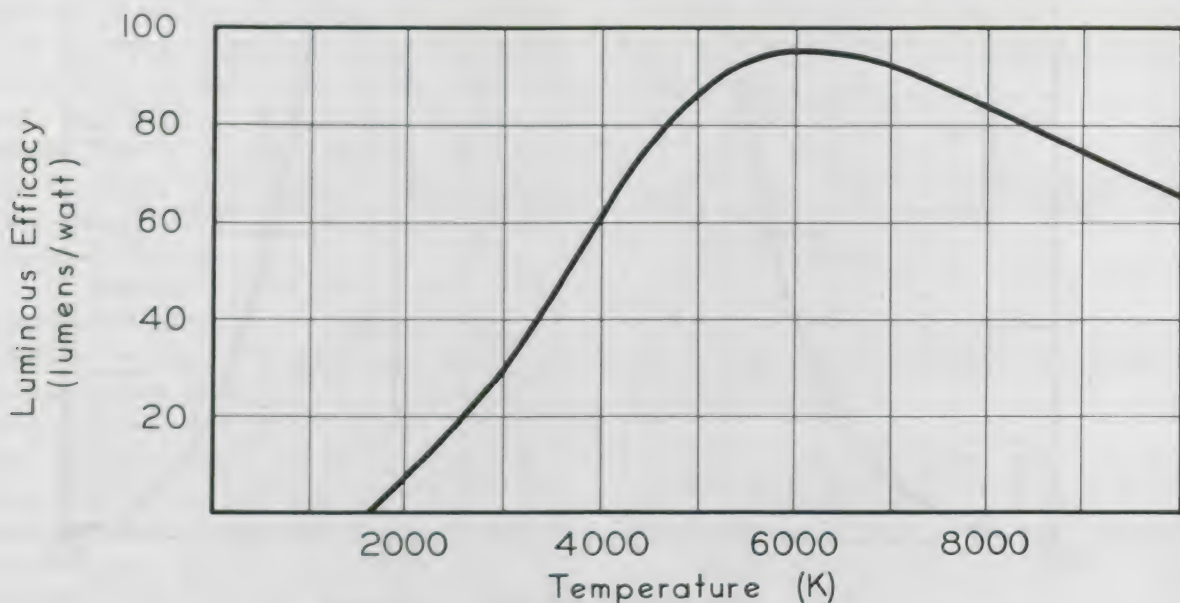

Figure 23.
The characteristics of blackbodies and of the human eye response are known. The summing process can easily be done by a computer and put into a useful form. One such computation provides a graph of luminous flux versus temperature for each watt of radiant flux from a radiating object. We call the measure of lumens per watt of radiated power the *luminous efficacy*, e_L . Figure 23 shows a graph of luminous efficacy versus temperature for any graybody or blackbody.
If the temperature, surface area, and emissivity of any graybody is known, the luminous flux from the body may be calculated by using Equation (18) and the graph of Figure 23.
The luminous efficacy, e_L , is found from the graph of Figure 23. At 2500 K the approximate value for e_L is read from the graph as
From the graph of Figure 23 one can see that the most efficient light-producing black-body has a temperature of about 6000 K. At that temperature it would produce about 95 lm/W. Such high temperatures are impractical for an incandescent lamp filament because
9. How does your graph compare with that shown in Figure 23?